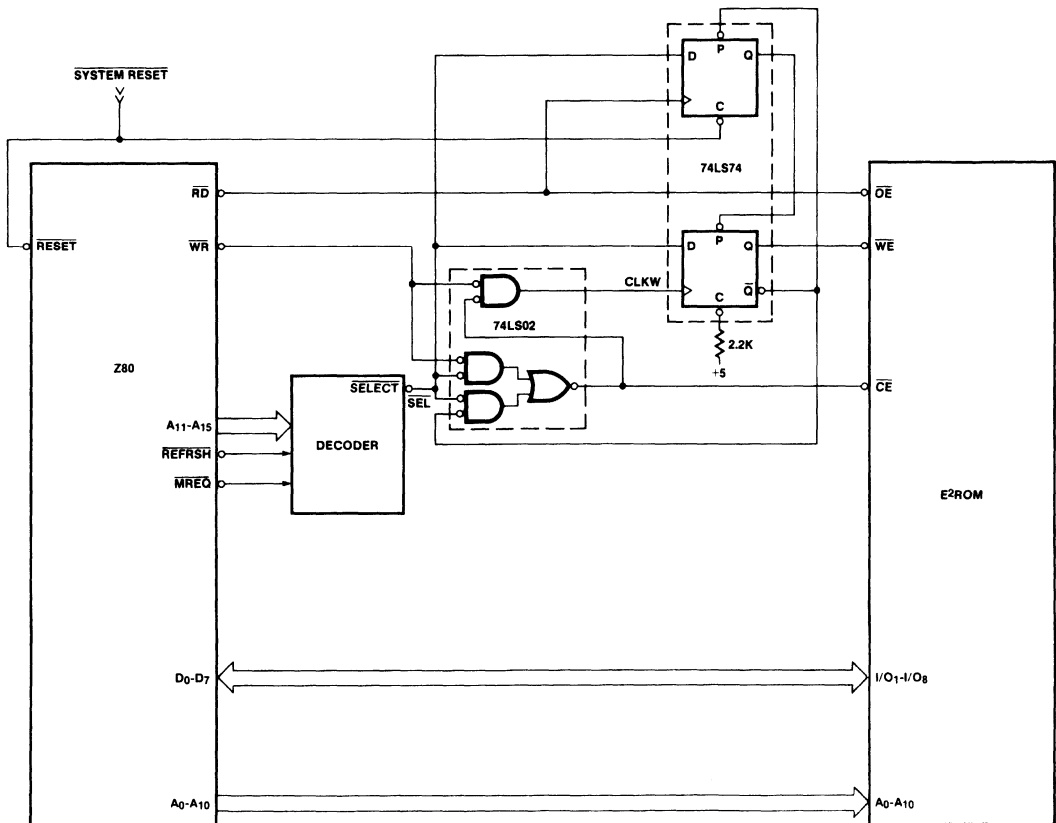
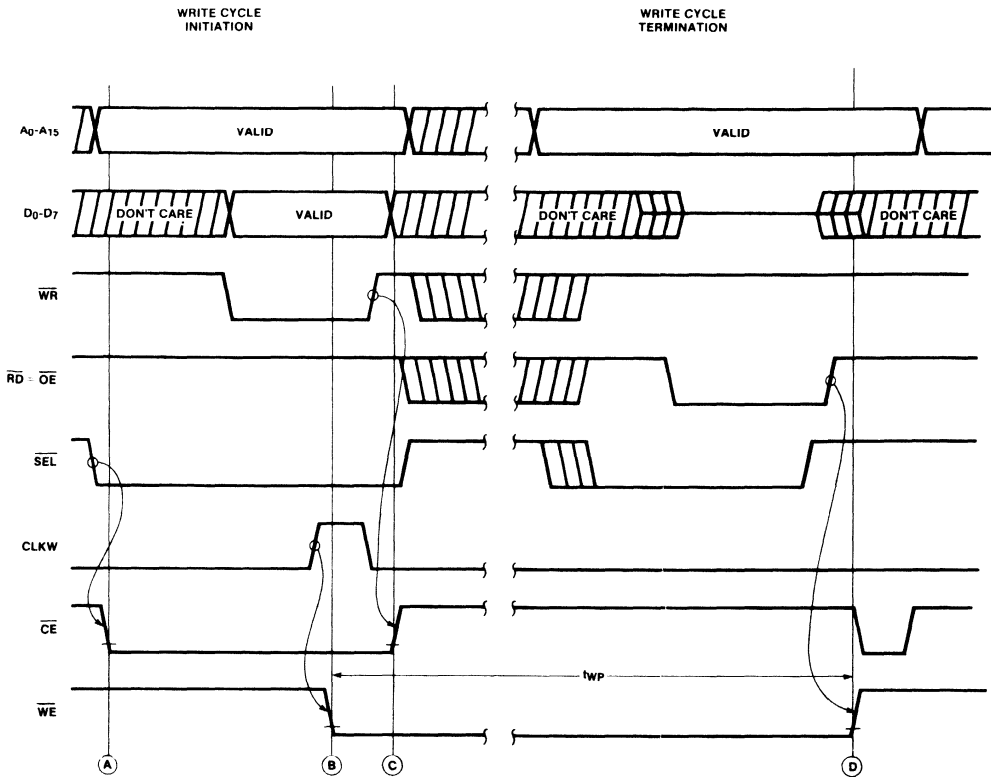
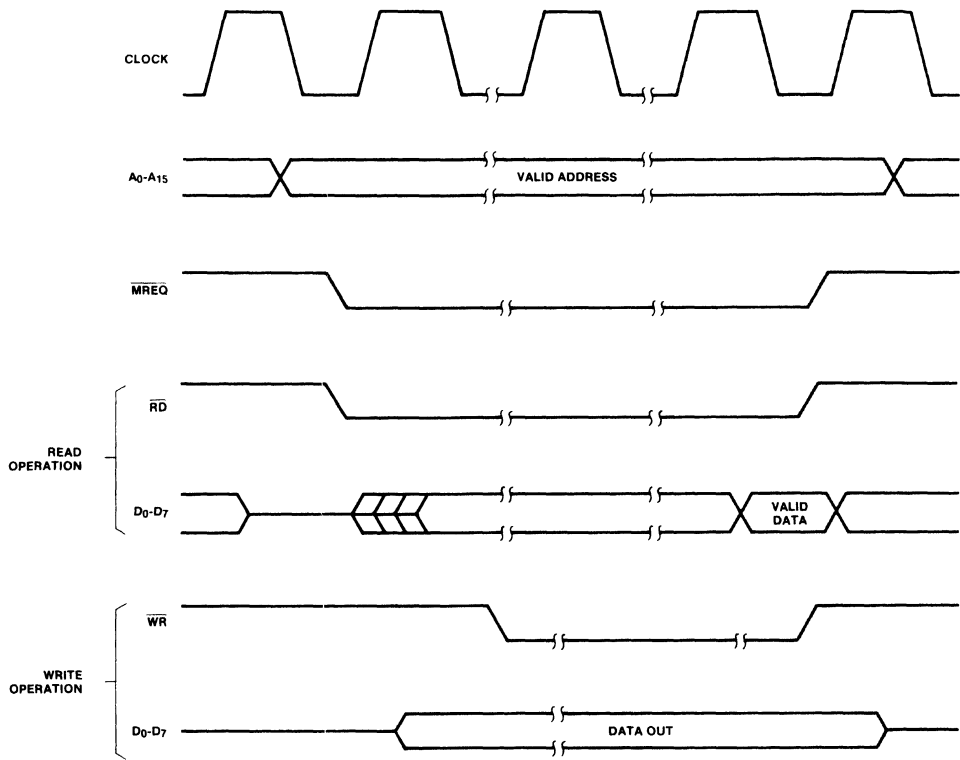

Figure 9. Z80/E2ROM Interface
Figure 10. Timing Diagram — E2ROM Interface (Write Cycle)
Figure 11. Z80 Read and Write Cycle
A sample interface is shown for a Z80 processor (see Figure 9). The timing diagram for write cycle waveforms at this interface is also shown (see Figure 10). The basic circuit is very similar to the 8085 interface, with the differences based on the fact that the Z80 has data valid at both edges of  $\overline{WR}$  (see Figure 11). This simplified timing allows a more simple interface. The CLK output from the processor is not necessary, and  $\overline{WR}$  alone provides timing for the write cycle initiation.
The operation of the circuit is otherwise very similar to the 8085 interface. After addresses are brought valid on the address bus, they are decoded to drive SEL active low, which drives  $\overline{CE}$  active low at the E2ROM device pin (see Figure 9, and (A) in Figure 10). At the falling edge of  $\overline{WR}$  (when this device is selected), the  $\overline{WE}$  latch
is clocked, bringing  $\overline{WE}$  active low (see (B) in Figure 10). At this time, the latched type device latches address, data, and control signals, while the timer type device latches address and control signals. At the falling edge of  $\overline{WR}$ , the gating circuitry brings  $\overline{CE}$  high, latching data for the timer type part (see (C) in Figure 10). Within a normal processor cycle, a write cycle has been initiated with timing in accordance with the general approach of Figure 3. Even with additional buffers which may be common in a bus oriented system, this interface can be used with a Z80, Z80A, or Z80B operating with no wait states at up to 6 MHz clock frequency. The individual system designer, of course, must check his own application to ensure satisfaction of applicable setup and hold requirements in the specific system for which the application is intended.
The termination of a write cycle is very straightforward. As shown in the Basic Operation section (see Figure 5), a read operation to the E2ROM terminates the write cycle, but does not provide valid data. For the interface operation in write cycle termination, the reader should refer to Figure 10. The addresses are brought valid on the address bus, and are decoded to drive  $\overline{SEL}$  active low (see (A) in Figure 10). The gating circuitry, however, inhibits  $\overline{CE}$ , and  $\overline{CE}$  remains at  $V_{IH}$ . At the rising edge of  $\overline{RD}$ , the flip-flop receives a positive edge trigger, and clocks in the  $\overline{SEL}$  signal to preset the  $\overline{WE}$  latch. At this point,  $\overline{WE}$  is brought high (see (D) in Figure 10), terminating the write cycle. For the remainder